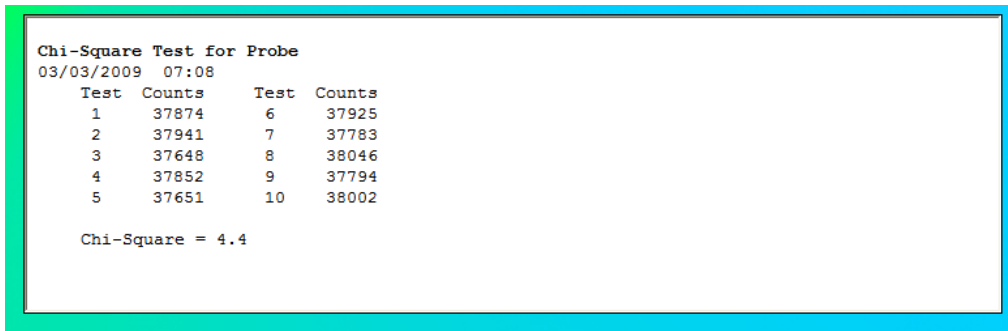

Figure 5-20
9. After the test is completed, the results of the test appear in the box below as shown in Figure 5-20. Note the Chi-Square value.